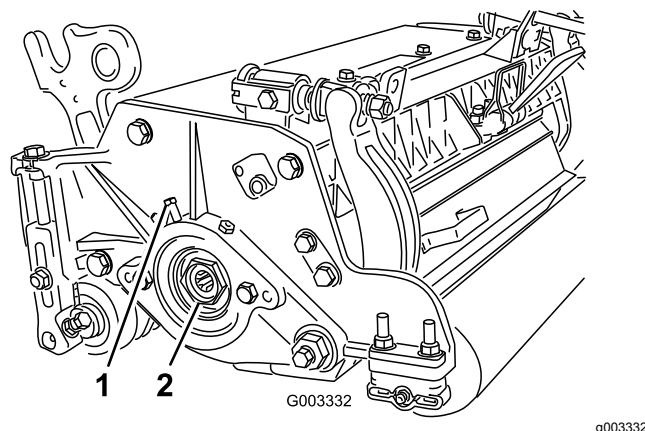

Figure 28
- A. Loosen external set screw securing bearing adjusting nut to bearing housing located on the left side of the cutting unit (Figure 28).